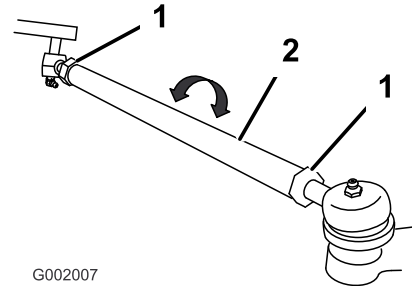

Figure 57
5. If the measurement does not fall within the specified range, loosen the jam nuts at both ends of the tie rods (Figure 57).